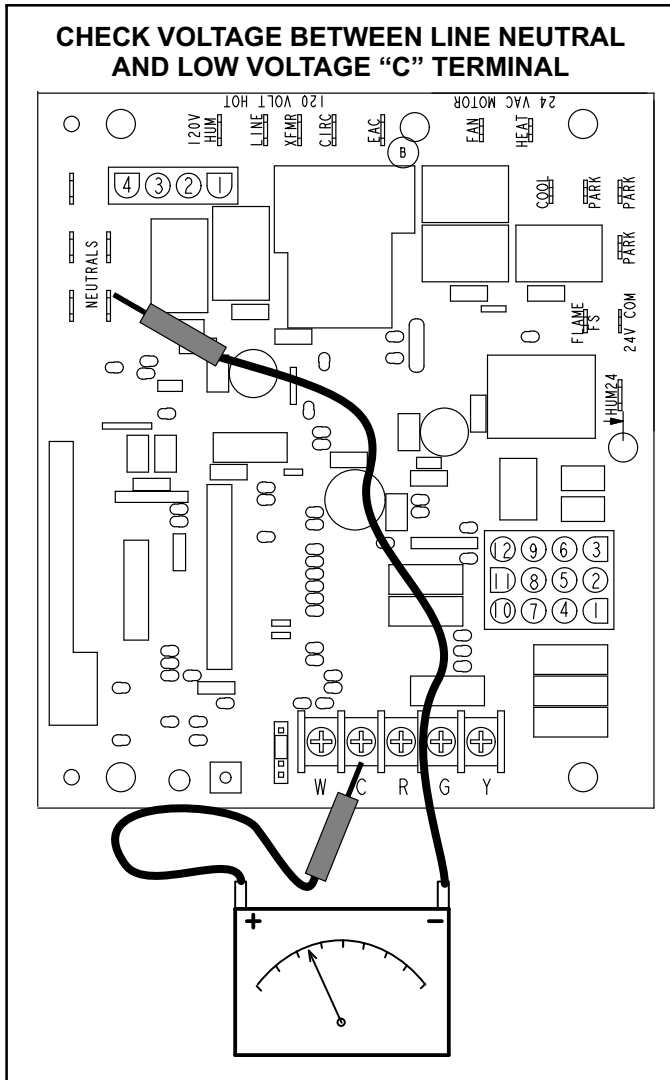

FIGURE 19
- 1 - Measure the AC voltage between Line Neutral (spade terminals) and "C" terminal (low voltage terminal block) on the integrated control. See figure 19. A wide variation in the voltage between Line Neutral and "C" as a function of load indicates a poor or partial ground. Compare the readings to the table below. If the readings exceed the maximum shown in table 12, make repairs before operating the furnace.